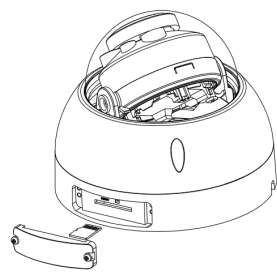

Figure 2-4 Installing a TF card
1. Install TF card: Insert the TF card into the TF card slot and install the TF card, as shown in Figure 2-4